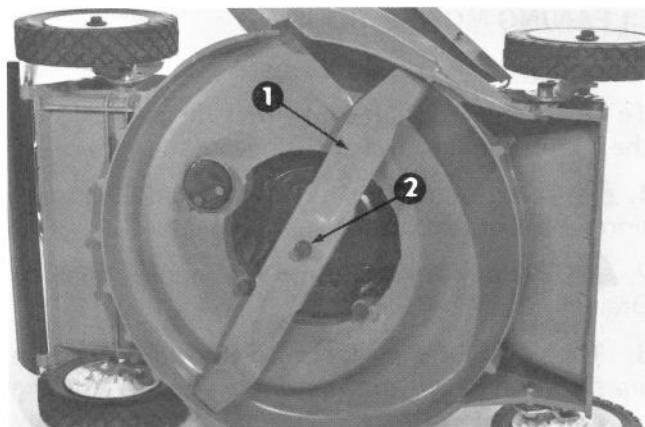

Figure 26
3. Tip mower on its left side. Grasp end of blade using a rag or thickly padded glove. Remove blade bolt, lockwasher, and blade (Fig. 26).